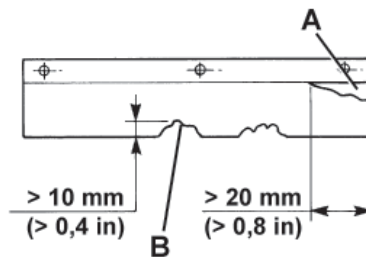

Figure 20
Replace the skirts when they have cuts (A, Fig. 20) larger than 20 mm or cracks/tears (B) larger than 10 mm (for skirt replacement, refer to the Service Manual).